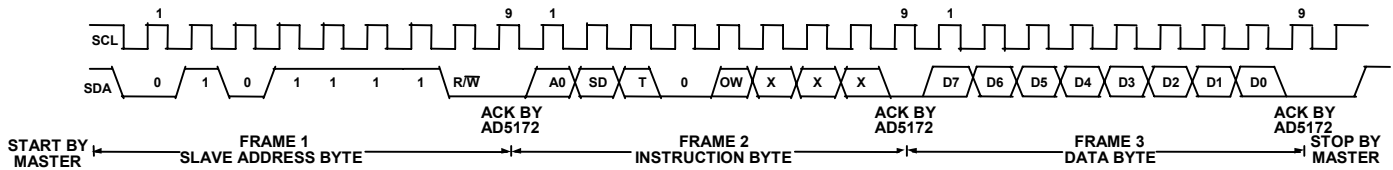
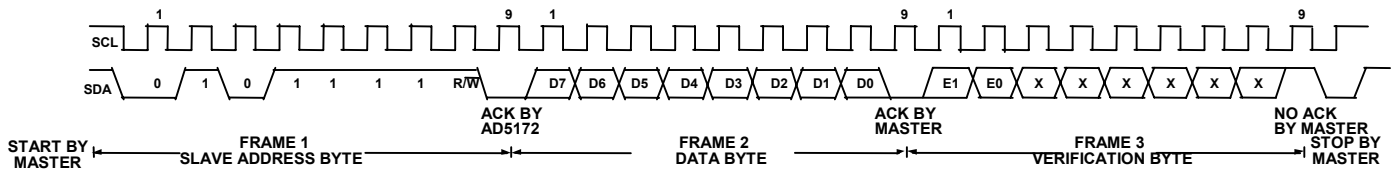
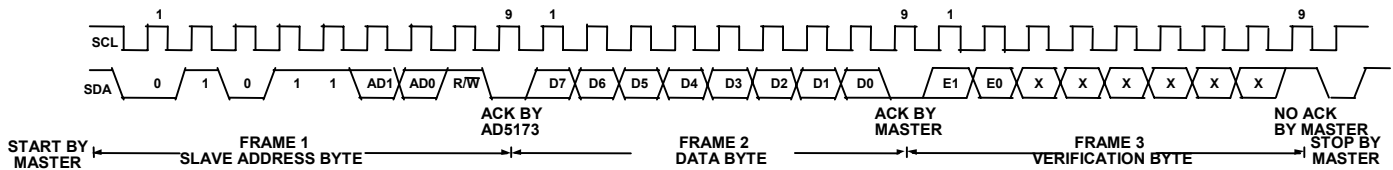

Figure 39. Writing to the RDAC Register – AD5172
Figure 41. Reading Data from a Previously Selected RDAC Register in Write Mode – AD5172
Figure 42 Reading Data from a Previously Selected RDAC Register in Write Mode – AD5173
After acknowledging the instruction byte, the last byte in write mode is the data byte. Data is transmitted over the serial bus in sequences of nine clock pulses (eight data bits followed by an acknowledge bit). The transitions on the SDA line must occur during the low period of SCL and remain stable during the high period of SCL (see Figures 39 and 40).
- In the read mode, the data byte follows immediately after the acknowledgment of the slave address byte. Data is transmitted over the serial bus in sequences of nine clock pulses(a slight difference with the write mode, where there are eight data bits followed by an acknowledge bit). Similarly, the transitions on the SDA line must occur during the low period of SCL and remain stable during the high period of SCL (see Figure 41 and Figure 42).
Note that the channel of interest is the one that is previously selected in the Write Mode. In the case where users need to read the RDAC values of both channels, they need to program the first channel in the Write Mode and then change to the Read Mode to read the first channel value. After that, they need to change back to the Write Mode with the second channel selected and read the second channel value in the Read Mode again. It is not necessary for users to issue the Frame 3 data byte in the write mode for subsequent readback operation. Users should refer to Figure 41 for the programming format.
- After all data bits have been read or written, a STOP condition is established by the master. A STOP condition is defined as a low-to-high transition on the SDA line while SCL is high. In write mode, the master will pull the SDA line high during the tenth clock pulse to establish a STOP condition (see Figure 39) In read mode, the master will issue a No Acknowledge for the ninth clock pulse (i.e., the SDA line remains high). The master will then bring the SDA line low before the tenth clock pulse which goes high to establish a STOP condition (see Figure 41).